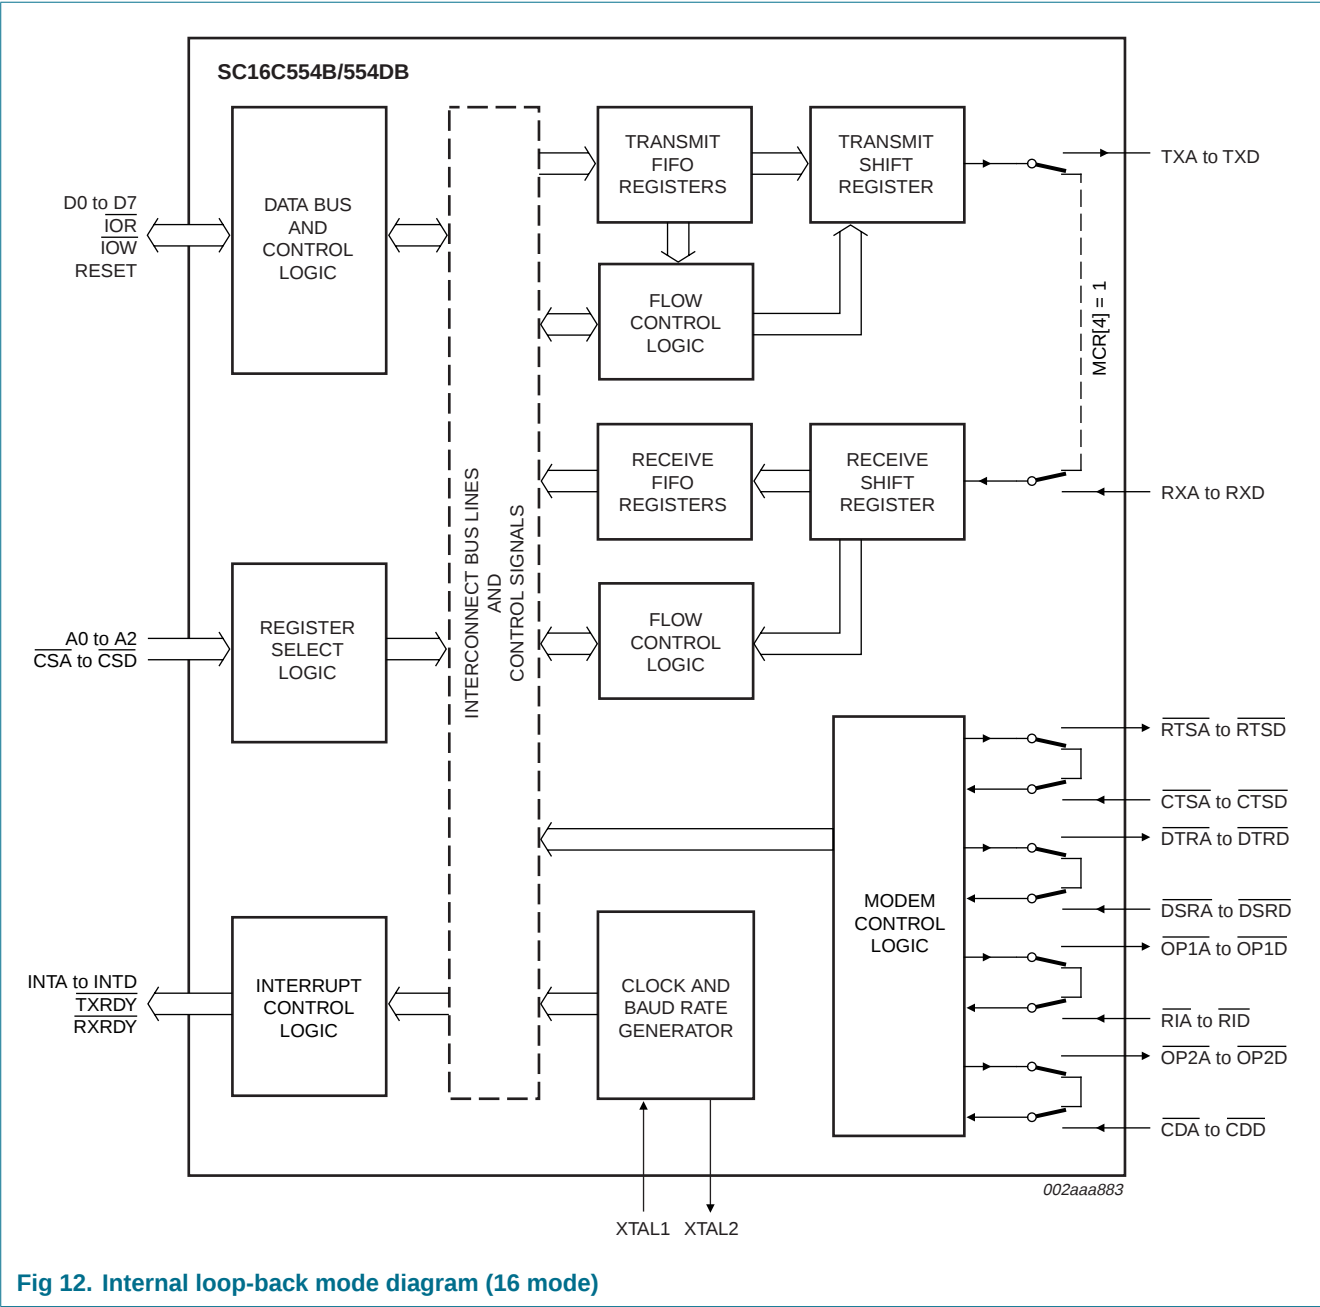

Fig 12. Internal loop-back mode diagram (16 mode)
The internal loop-back capability allows on-board diagnostics. In the loop-back mode, the normal modem interface pins are disconnected and reconfigured for loop-back internally. MCR[0:3] register bits are used for controlling loop-back diagnostic testing. In the loop-back mode, $\overline{OP1}$ and $\overline{OP2}$ in the MCR register (bits 2:3) control the modem $\overline{RI}$ and $\overline{CD}$ inputs, respectively. MCR signals $\overline{DTR}$ and $\overline{RTS}$ (bits 0:1) are used to control the modem $\overline{DSR}$ and $\overline{CTS}$ inputs, respectively. The transmitter output (TX) and the receiver input (RX) are disconnected from their associated interface pins, and instead are connected together internally (see Figure 12). The $\overline{CTS}$, $\overline{DSR}$, $\overline{CD}$, and $\overline{RI}$ are disconnected from their normal modem control input pins, and instead are connected internally to $\overline{RTS}$, $\overline{DTR}$, $\overline{OP2}$ and $\overline{OP1}$. Loop-back test data is entered into the transmit holding register via the user data bus interface, D0 to D7. The transmit UART serializes the data and passes the serial data to the receive UART via the internal loop-back connection. The receive UART converts the serial data back into parallel data that is then made available at the user data interface D0 to D7. The user optionally compares the received data to the initial transmitted data for verifying error-free operation of the UART TX/RX circuits.